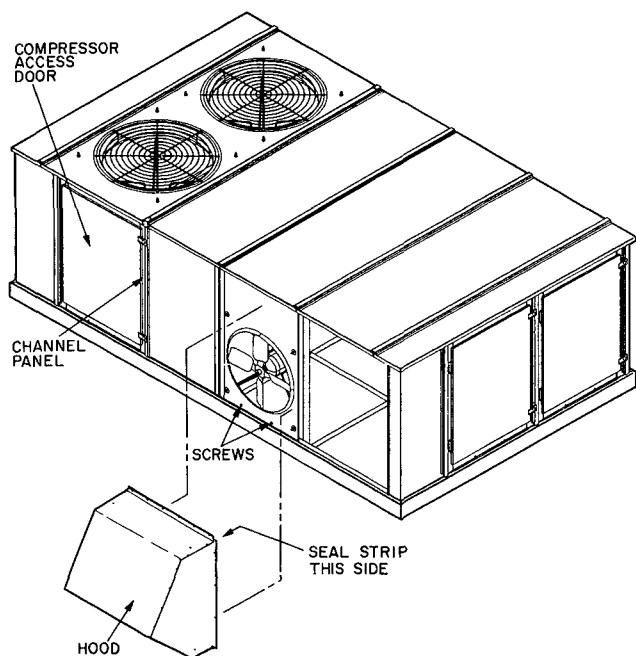

Fig. 12 — Power Exhaust/Barometric Relief Hood
1. Remove the lag screws holding hood assembly to shipping skid. See Fig. 12.
4. Refer to Fig. 12 and add seal strip to hood as shown.